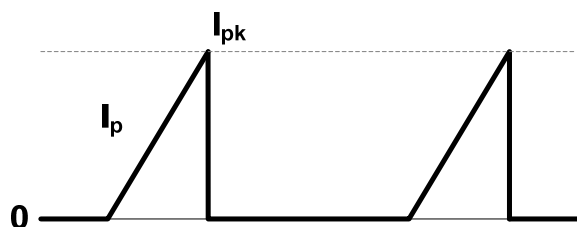

Figure 4: Primary Current Waveform
When the current  $I_p(t)$  rises up to  $I_{pk}$  (see Figure 4), the primary switch turns off. The value of  $I_{pk}$  can be calculated with Equation (2):